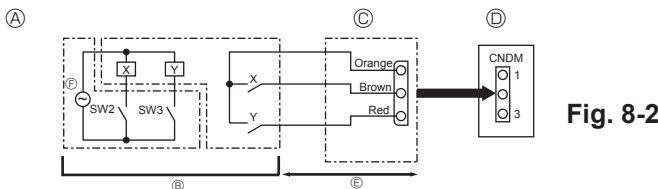

Fig. 8-2
- (A) Circuit diagram example (Demand function)
- (B) On-site arrangement
- (C) External input adapter (PAC-SC36NA-E)
- (D) Outdoor unit control board
- (E) Max. 10 m
- (F) Power supply for relay
8.2. Demand function (on-site modification) (Fig. 8-2)